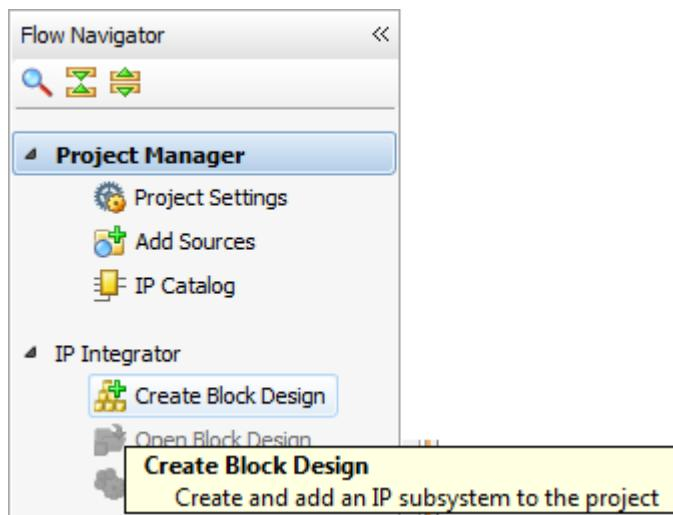

Figure 1.7: Creating a new Block Design in Flow Navigator
- In the *Flow Navigator* window, select **Create Block Design** from the *IP Integrator* section, as in Figure 1.7: